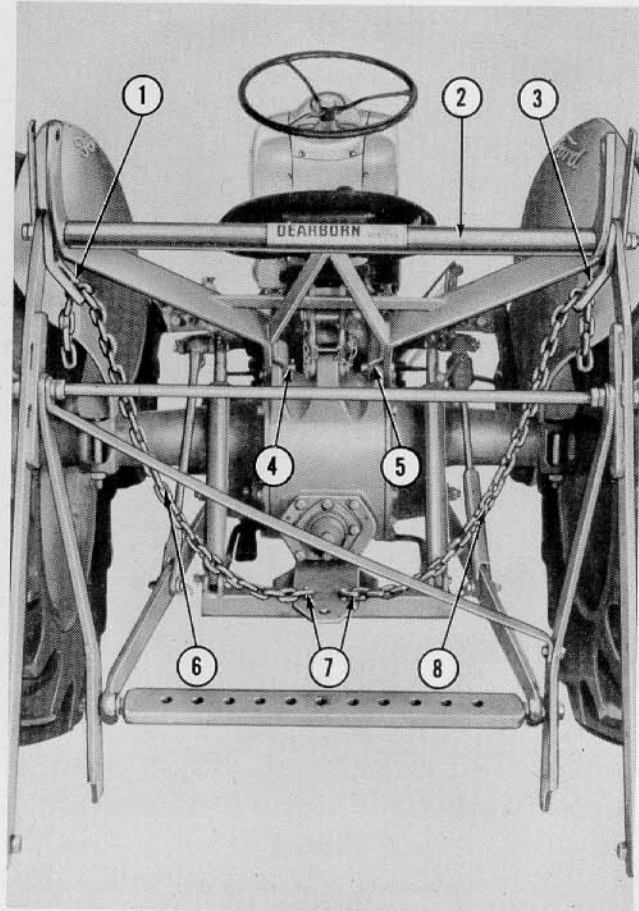
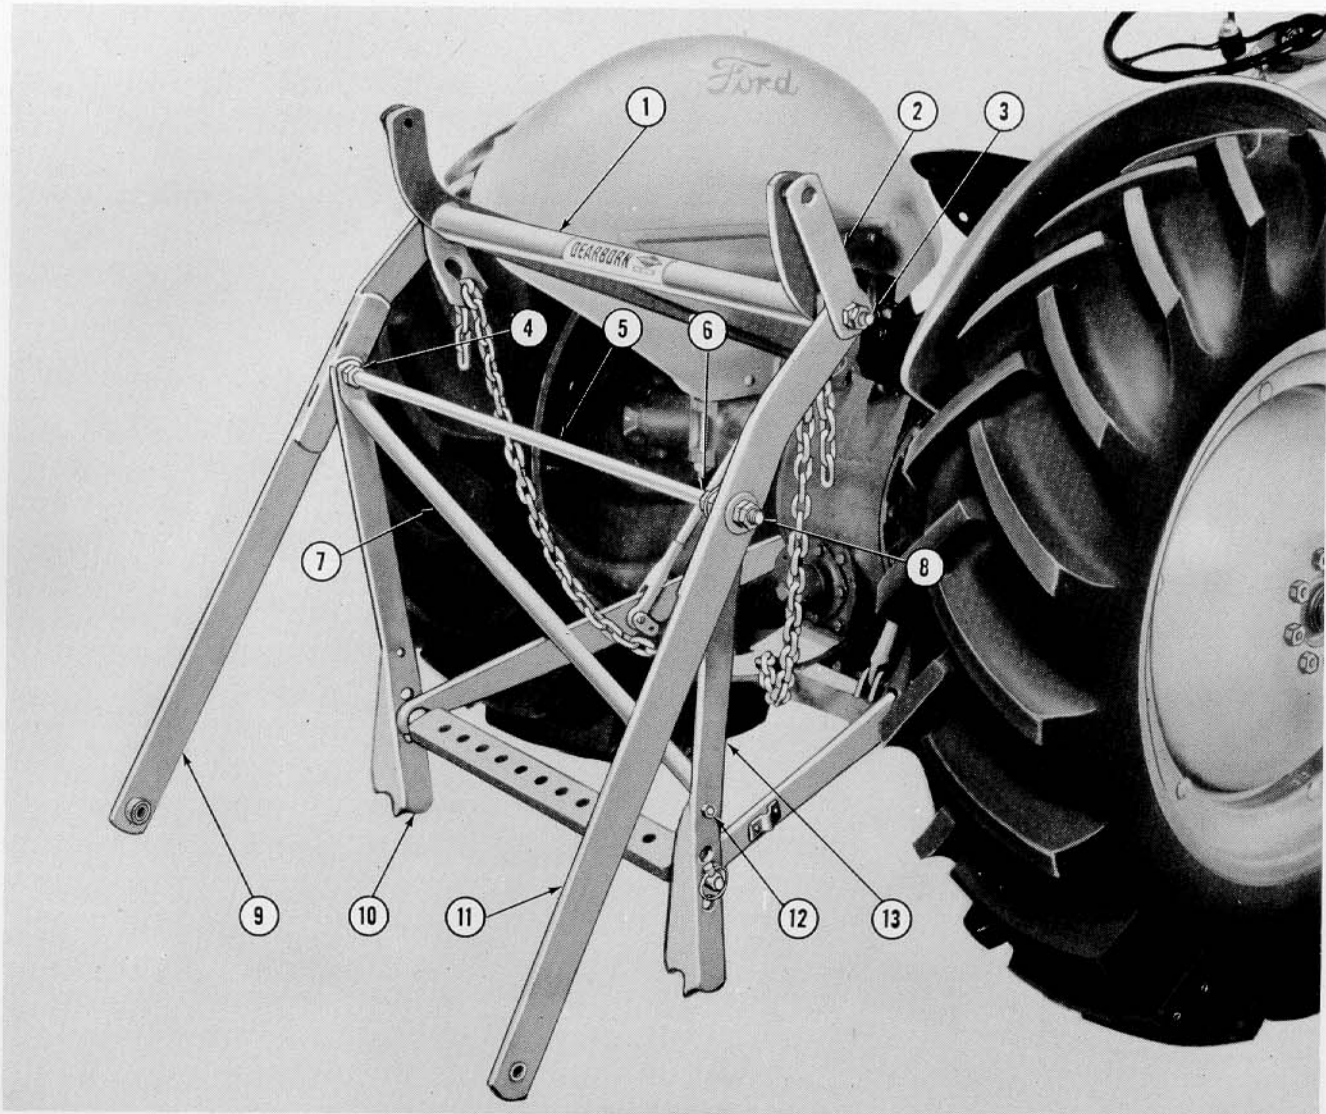

Figure 5
Figure 6
- a. Attach the two lifting struts (10) and (13), Figure 6, to the tractor drawbar as shown. Secure with the linch pins and turn the tractor leveling crank until the drawbar is level.
- b. Assemble two nuts (4), Figure 6, on each end of the tie rod (5). Place a flatwasher (6) over the right end of the rod and place the cross brace (7) on the left end as shown. Position the tie rod between the lift struts (10) and (13), Figure 6, and secure the lower end of the brace (7) with the bolt (12) and nut provided.
- c. Place a  $1'' \times 1\frac{17}{16}''$  spacer over each end of the rod (5), Figure 6. Lubricate each spacer with a good grade of gun grease.
- d. Position the upper link frame assembly (2), Figure 5, on the tractor center housing as shown. Insert the right pin (5) and secure with the flatwasher and cotter pin provided. Insert the  $\frac{3}{4}'' \times 1''$  bushing in the left flange (4), Figure 5, and secure the assembly with the pin, flatwasher and cotter pin provided.
- e. Insert the threaded tie rod (3), Figure 6, through the upper frame assembly (1) and place a  $1'' \times 1\frac{17}{16}''$  spacer over each end of the rod. Lubricate each spacer with a good grade of gun grease.
- f. Place the two chain attaching links (1) and (3), Figure 5, over the spacers on each end of the upper tie rod (3), Figure 6.
- g. Position the two lower lift arms (9) and (11), Figure 6, on each end of the tie rods (3) and (8) as shown. Secure each end of the tie rod (5) with the flatwashers, nuts and jam nuts (8).
- h. Place the upper locking links (2), Figure 6, over each end of the upper tie rod (3) and secure with the nuts and jam nuts provided.
5. Attach the two chains (6) and (8), Figure 5, to the cylinder bracket by inserting the lower links through the slots (7) and securing with the long pin and cotter pins provided. Attach the upper ends of the chains (6) and (8) through the slotted holes provided in the link brackets (1) and (3) as shown.
- b. Remove the two attaching pins (4) and (5), Figure 5.
- c. Disconnect the two stop link chains (6) and (8), Figure 5, at the pin (7).
- d. Remove the bolt (12), Figure 6, and disconnect the loader lift struts from the tractor drawbar.